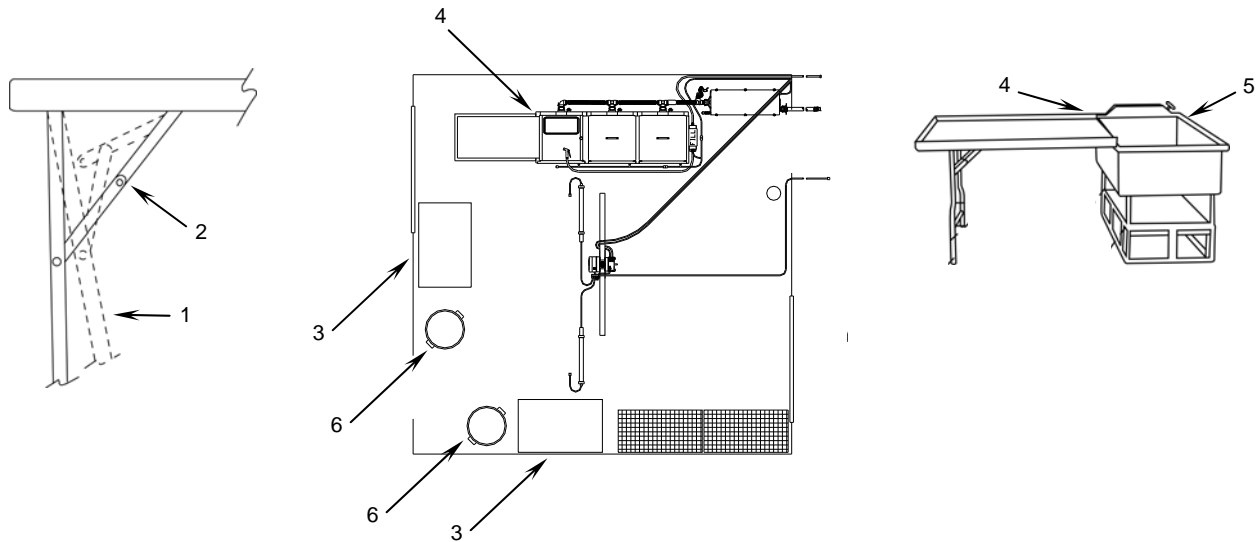

Figure 24. Installing the Work Table and Drain Table.
- a. Pull out the leg assemblies (**Figure 24, Item 1**) until the linkage (**Figure 24, Item 2**) snaps into place in the fully extended position.
- b. Move the assembled work tables (**Figure 24, Item 3**) to their operating locations.
- c. Attach the lip of the drain table (**Figure 24, Item 4**) to the end of left sink assembly (**Figure 24, Item 5**).
15. Place the trash receptacles (**Figure 24, Item 6**) in their operating locations.